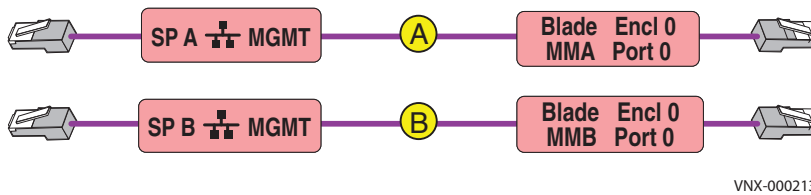

Figure 24 Blade enclosure cables
1. Locate the cables as shown in Figure 24.